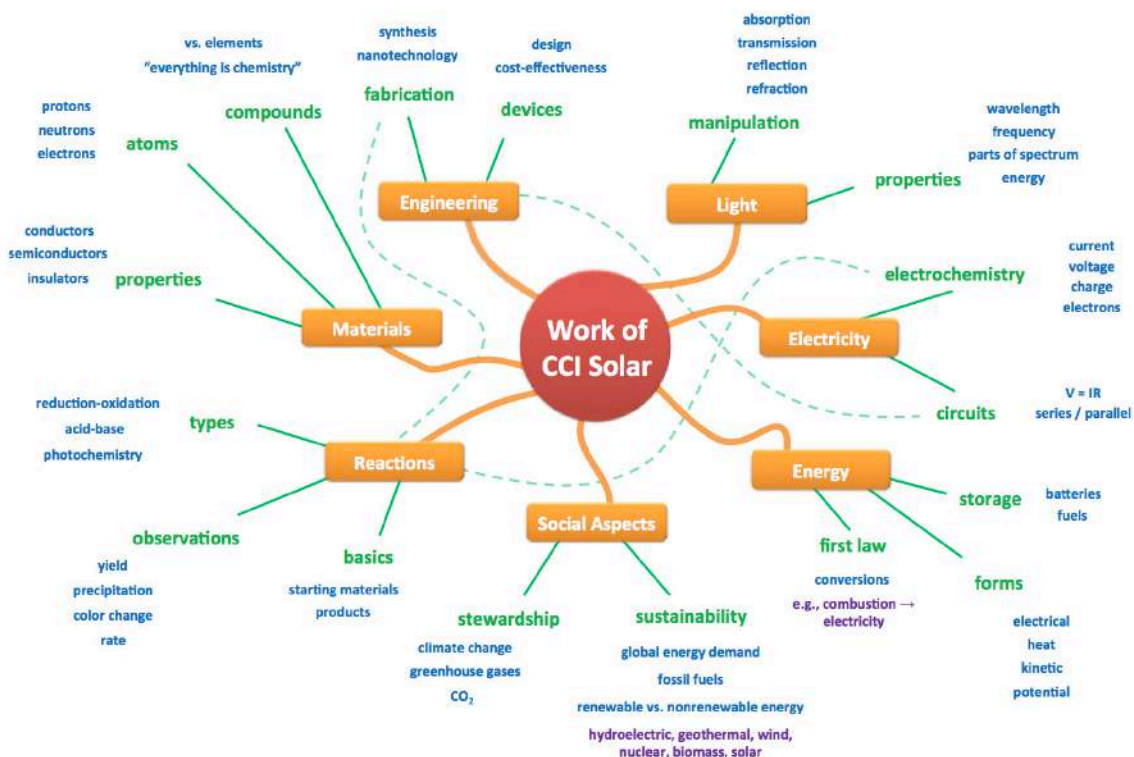

FIGURE 2. MINDMAP OF CCI SOLAR FUELS INFORMAL SCIENCE EDUCATION PROJECT CONCEPTS
- The Informal Science Education proposal had more of a conceptual basis for the content rather than a physical kit or activity. Initially we would be using JfJ and SEAL to engage the kids. Once we started planning actual dates, it became clear that for this audience of 8-14 year old kids, we first needed to impart some more basic concepts about energy, light, materials, reactivity, etc. In weekly calls between Caltech scientists, ISE practitioners, a high school science teacher, and outreach professionals, we came up with a mindmap of concepts that related to CCI Solar Fuels research (Figure 2). We have tried to design the activities so that most of the concepts in the mindmap are targeted. The first year of the program we came up with 15 specific modules, each focusing on a different portion of the mind map. We had lessons on light, chemical reactions, electricity, heat and energy, acidity of the oceans, and even a lesson devoted to carbon and climate change. The second year we expanded a few select modules to allow more in-depth, curiosity driven activities. The year was divided into three units: plastics, fuel cells, and robots. Each unit followed an arc where students first learned the basics about the topic through a variety of planned activities. Then the students were free to work on a project independently, utilizing the knowledge and skills they gained over the previous weeks. The final projects were making Holiday gifts for family and friends from plastics, racing modified toy fuel cell cars, and building a robot.